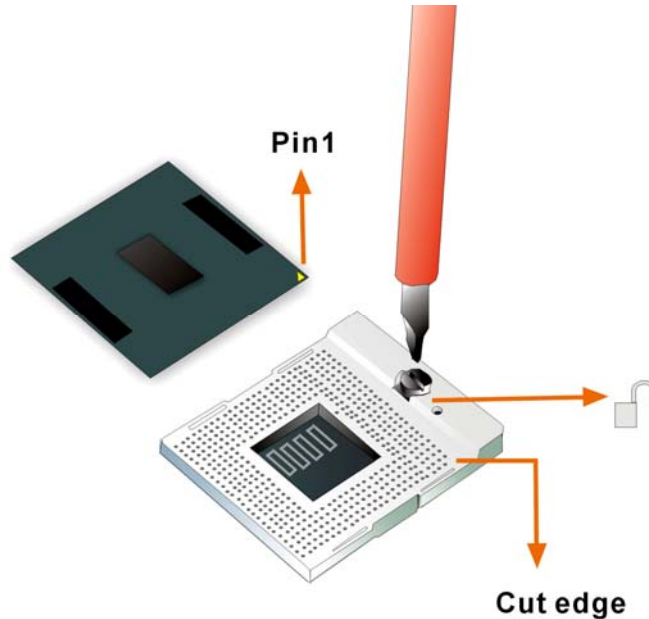

Figure 5-1: Make sure the CPU socket retention screw is unlocked
- Step 1:** Is the CPU retention screw in an unlocked position? When shipped, the retention screw of the CPU socket should be in the unlocked position. If it is not in the unlocked position, use a screwdriver to position it in an unlocked position. (See **Figure 5-1**)